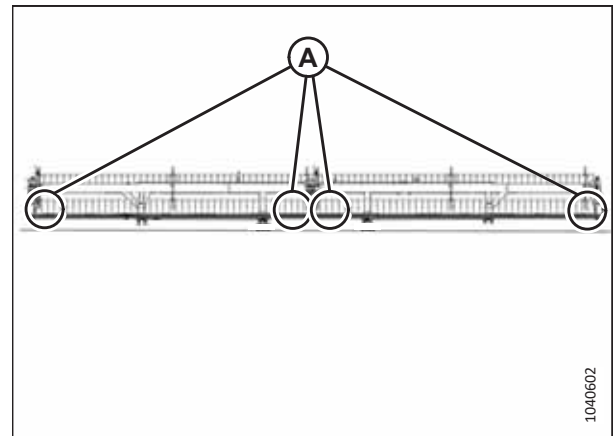

Figure 5.132: Double-Reel Header Measurement Locations
- Figure 5.132, page 301 – double-reel header